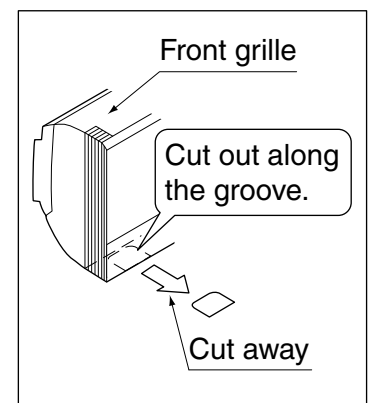

Fig. 4
- (a) Check the location for the hole using the included paper pattern for installation (3).
- (b) Temporarily attach the installation panel (1) at the temporary-securing position on the paper pattern for installation (3) and use a level to make sure the drain hose is either level or tilted slightly downward.
- (c) Secure the installation panel (1) to the wall using either screws or bolts.
- If using the attachment screws for the installation panel (2), attach using at least 4 screws on either side (for a total of 8 screws (07, 09, 12 type), 9 screws (18, 24 type)) of the recommended installation cleat position on the included paper pattern for installation (3).
(3) If using the left, bottom-left, or bottom-right positions for the piping, cut out the through-hole for the piping in the front grille. (Refer to Fig. 4)